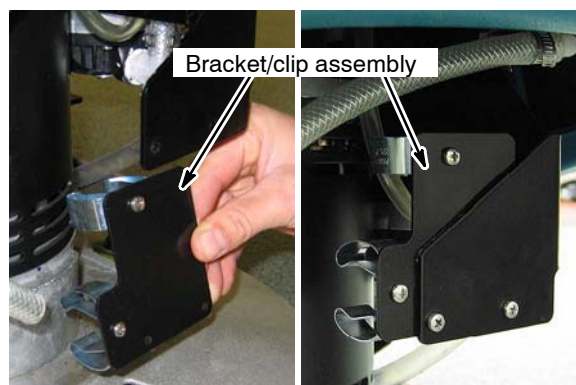

Fig. 8
4. Install the retrofit bracket/clip assembly supplied with kit (Figure 8).